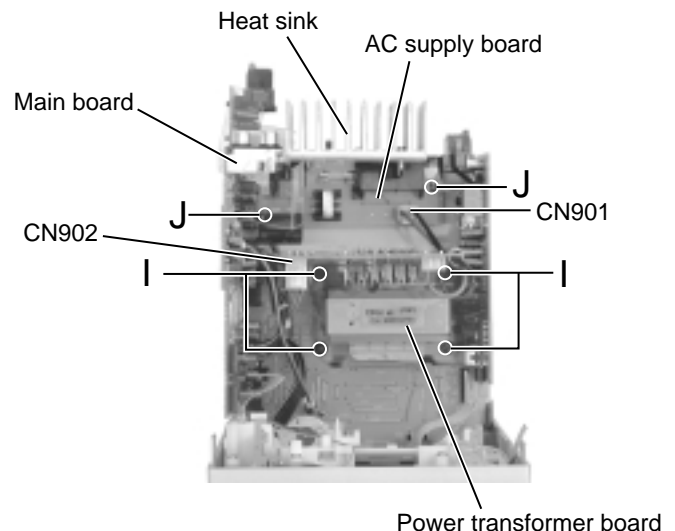

Fig.15
■ Removing the power transformer (See Fig.15)
■ Removing the AC supply board (See Fig.15)